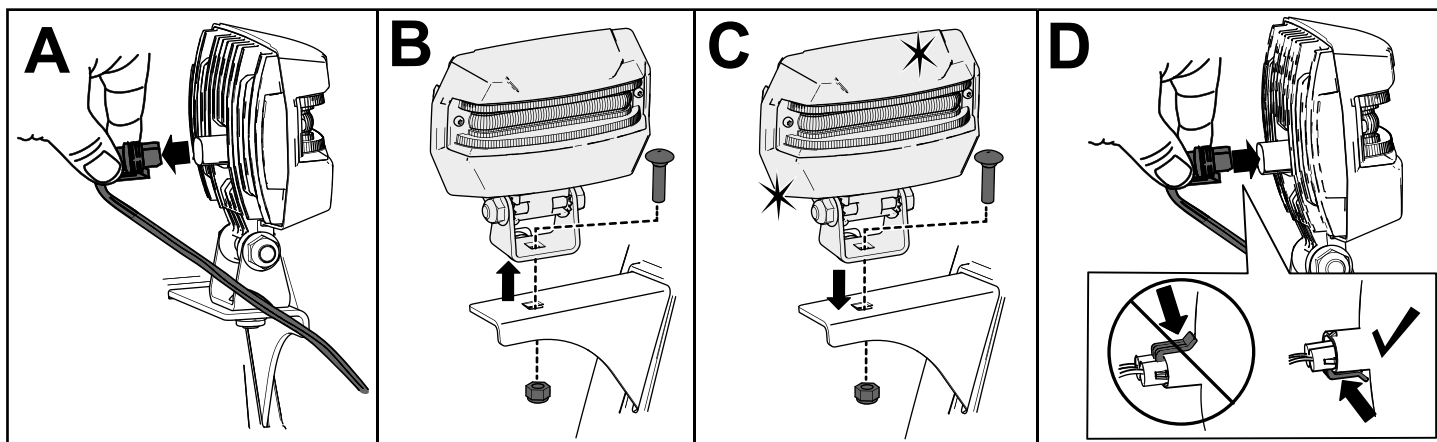

Figure 40
1. Remove the headlight wire from the back of the headlight (A of Figure 40).
2. Remove the bolt and nut holding the headlight assembly onto the headlight bracket and then remove the old headlight assembly (B of Figure 40).
3. Secure the new headlight assembly onto the headlight bracket with the previously removed nut and bolt (C of Figure 40).
4. Insert the headlight wire straight into the back of the headlight until it is securely in place (D of Figure 40).